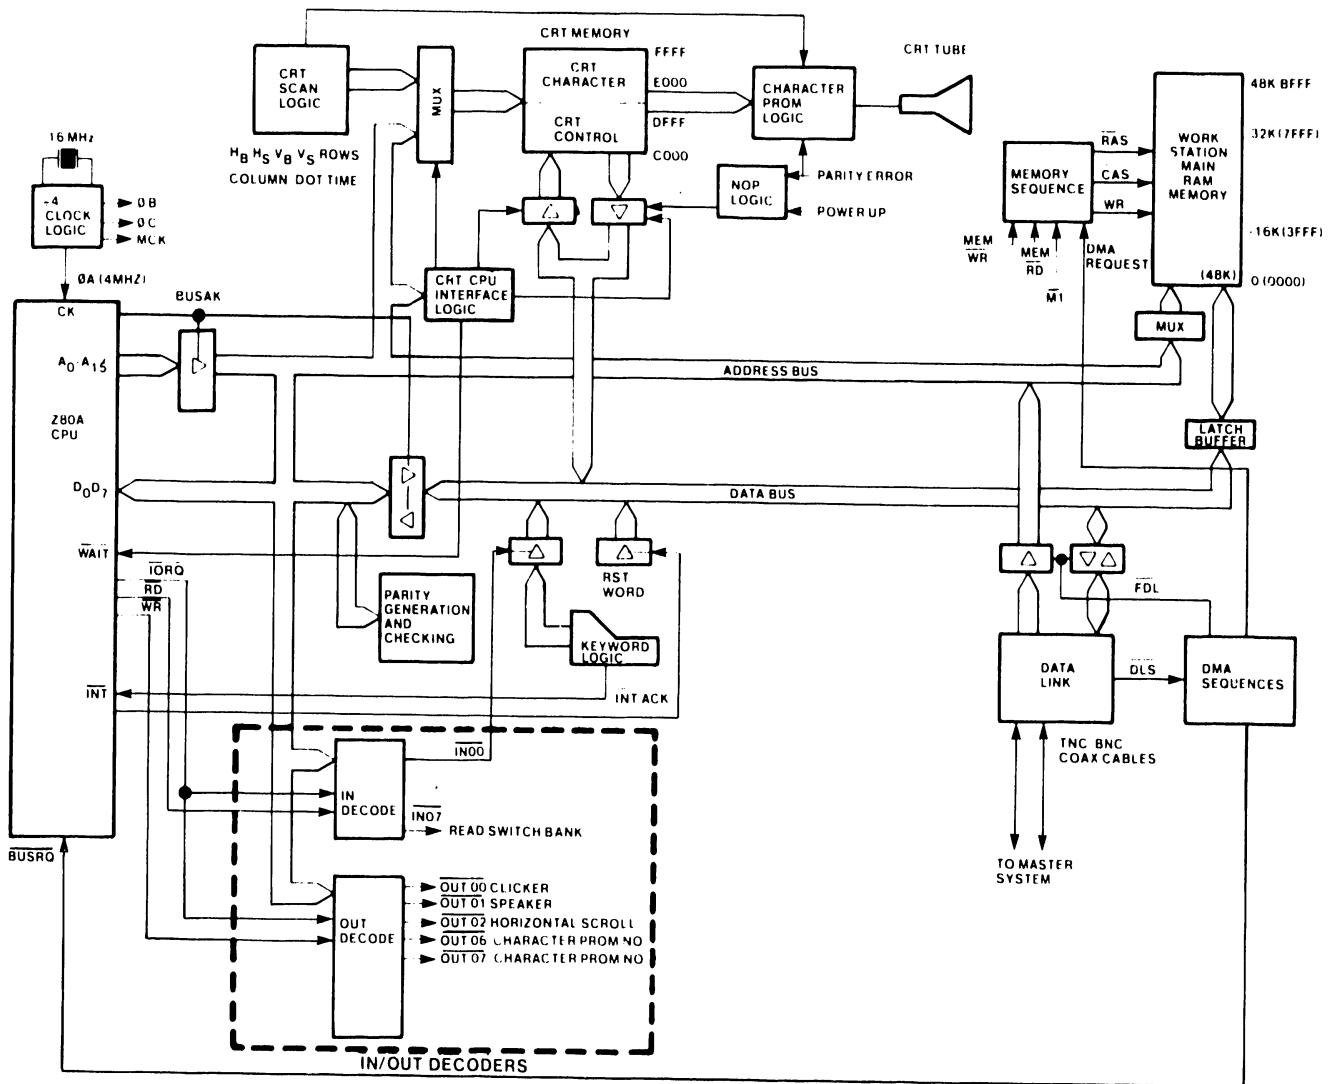

Figure 2-4 Keyboard Interface
2.2.4.6 Keyboard Interface (Figure 2-4)